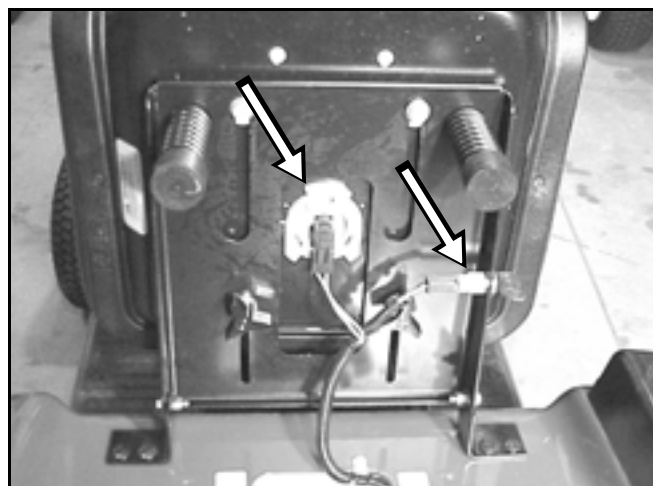

Figure 49
1. Unplug the seat switch, and the KeyChoice™ Reverse operating switch (Figure 49).